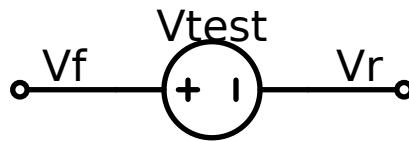
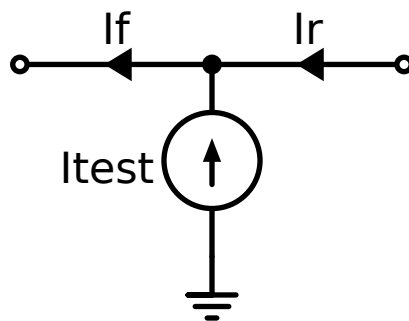

Figure 40: Middlebrook voltage loop gain simulation.
Figure 41: Middlebrook current loop gain simulation.
When we want to do a closed-loop gain analysis (for stability or other investigations), we have the need to break the loop at one point, apply a stimulus, and monitor the response on the other end. By doing this we want to keep the loading on both ends similar to the original case. To achieve this, we break the loop at one point by inserting (1) an ac voltage source, and (2) attach an ac current source, as shown in Figure 40 and Figure 41. The derivation of this approach is presented in (Middlebrook 1975), and has the big advantage that loading is not changed, and the bias points are also correct.